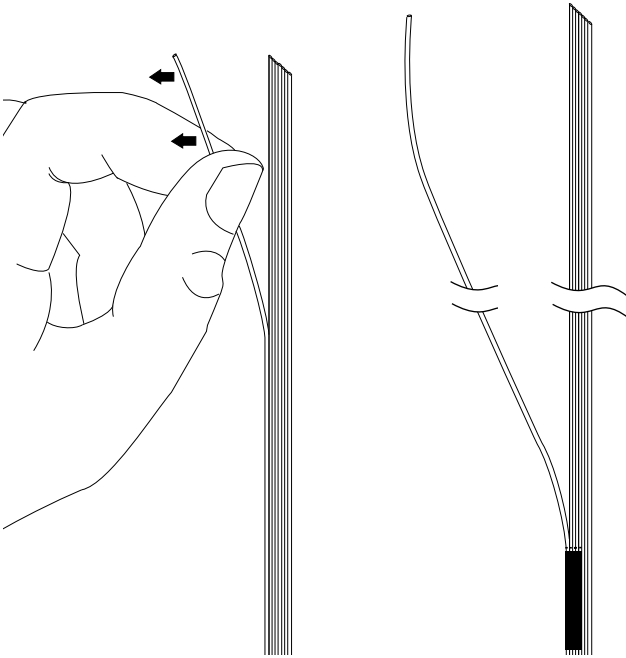

Figure 10
5.6 Pull this fiber until it is separated down to the wrap made in step 5.3 (Figure 10).
5.8 Remove the ribbon matrix from the separated fibers by wiping the group of fibers with a lint-free tissue or cloth soaked in isopropyl alcohol. Wipe the fibers individually until all of the matrix material has been removed (Figure 10).